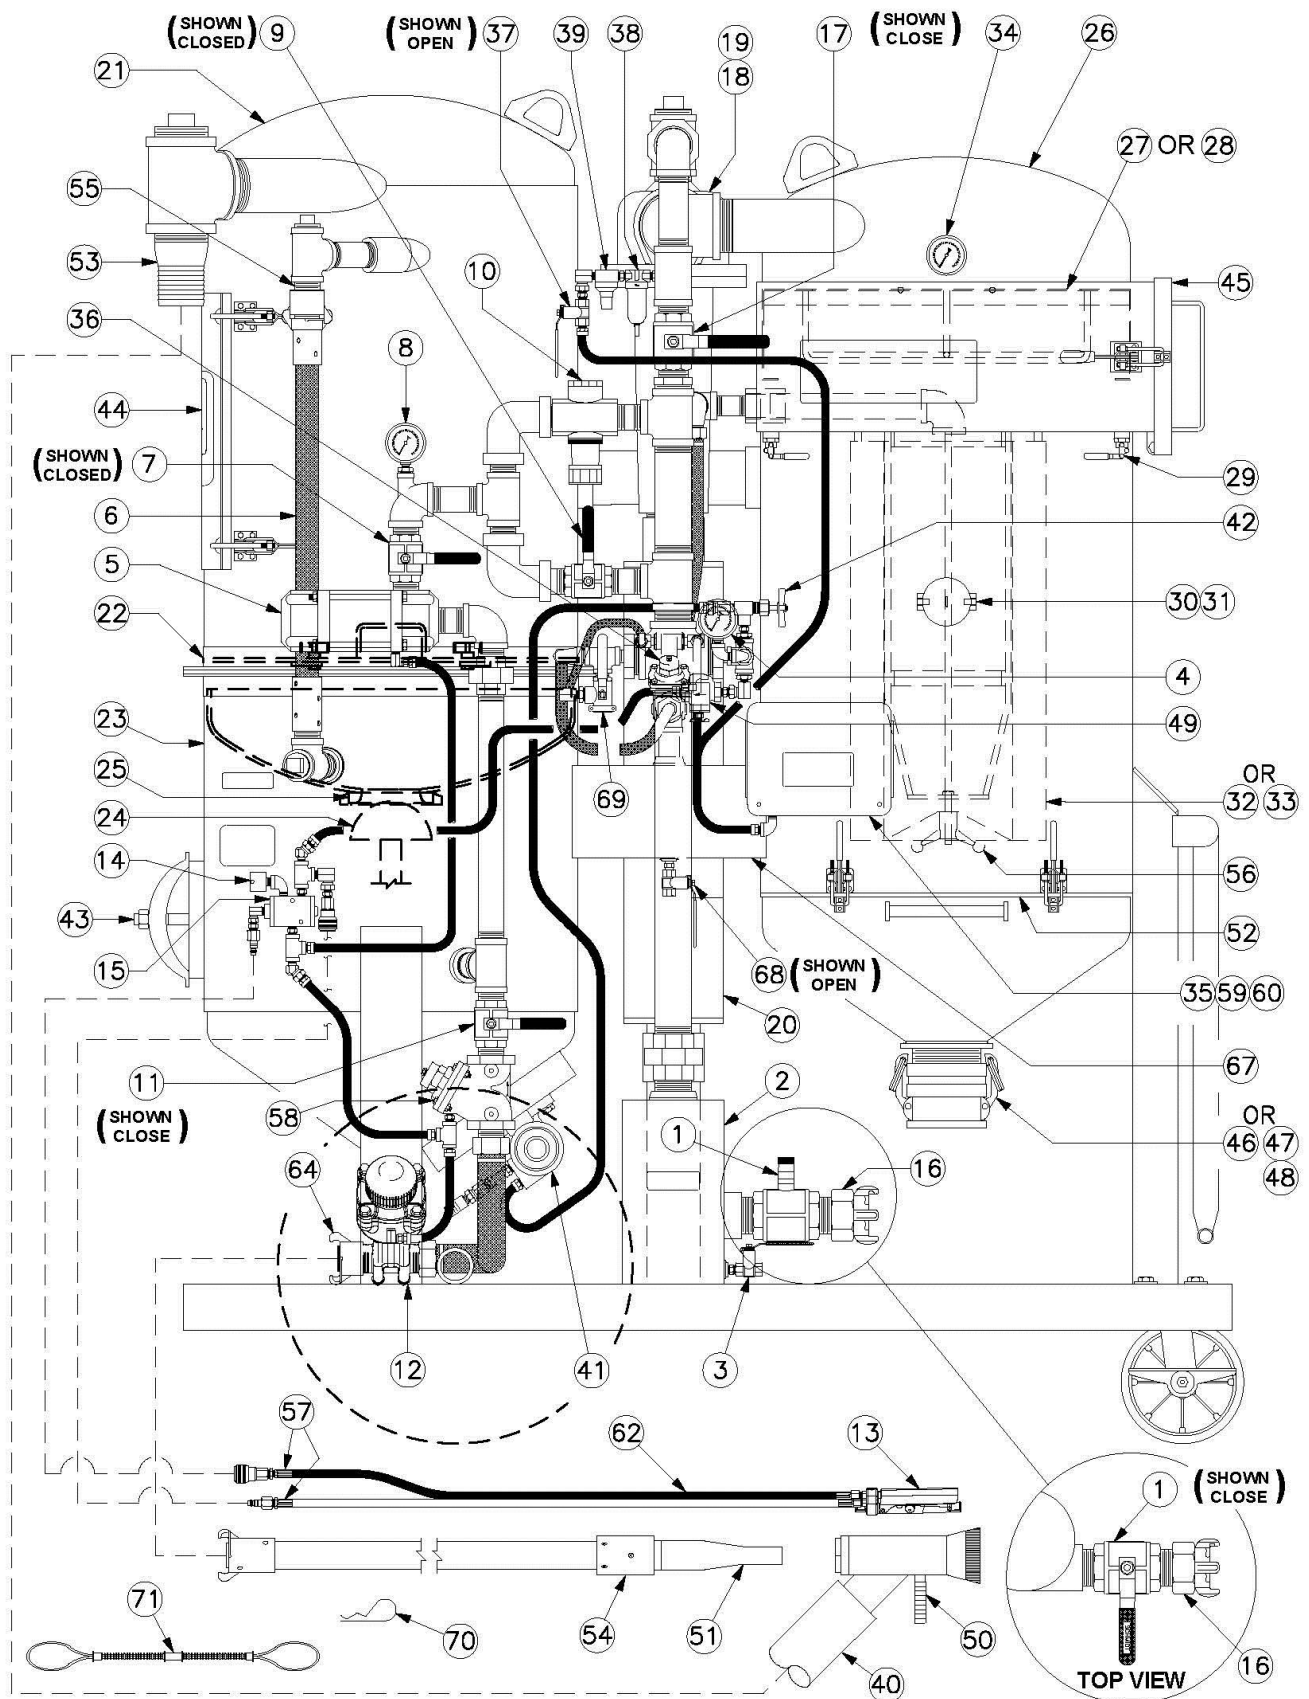

Figure 6.2 – Typical BRS Abrasive Blaster
6.1 BRS Abrasive Blaster Setup Procedure (see Figure 6.2)